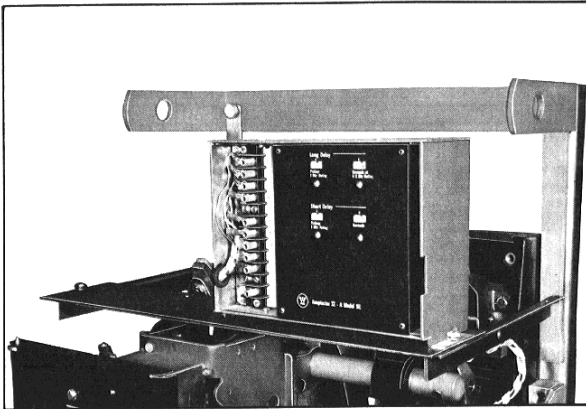

Fig. 24 Amptector Mounted on Cross Plate DB-50
2. Mount the cross plate with the two .203 holes next to the breaker arc chutes on the left hand arm using the .25-20 tapped hole, and .25-20 x .5 bolt and washers. Now mount the right hand side of the amptector to the cross plate and right hand arm with .25-20 x .5 bolt and washers, then secure left hand side of amptector to the cross plate with another .25-20 x .5 bolt and washers, Fig. 24.